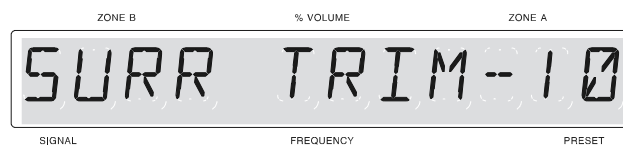

Figure 38
3. Press and release the TRIM pushbutton until SURR TRIM appears on the front panel display. Refer to figure 38.